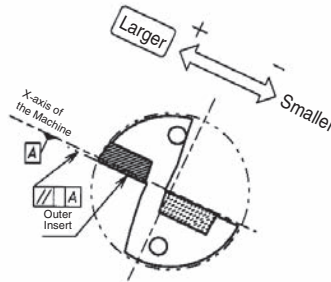

Fig. 3 Outer Insert Facing Down
- ② For making the hole diameter larger, slide the tool along the X-axis toward the outer insert side. (Fig. 2, Fig. 3)